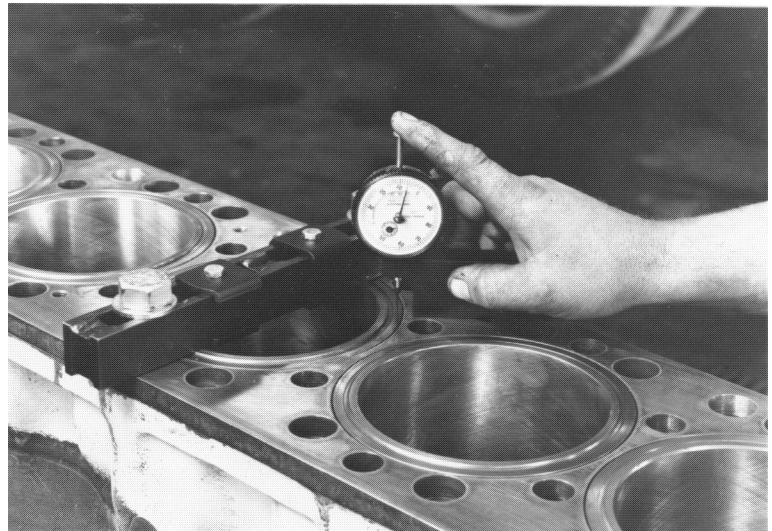

Figure 4
4. Move the gauge block to the liner, and measure the protrusion at four equidistant points. See Figure 4.